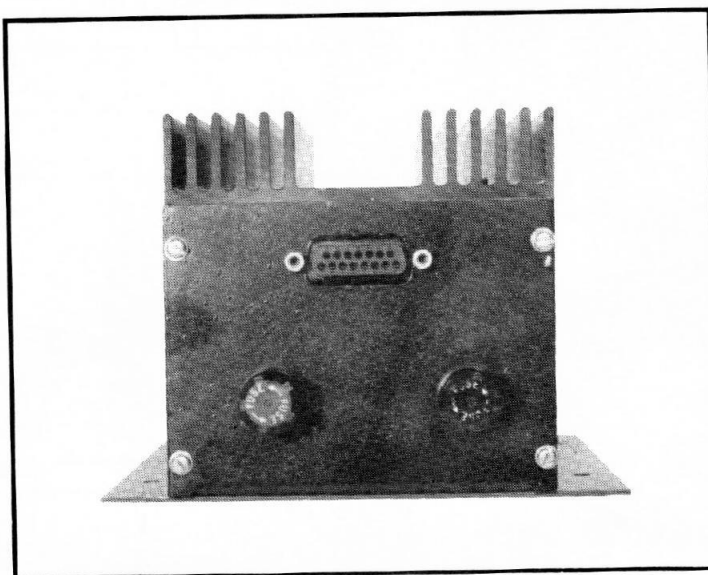

FIGURE 35. SERVO DRIVER
3. Connect one end of Cable AP900-4419 to the cable jack on the Servo Driver, shown in Figure 35, page 31. Secure in place with the 2 supplied screws.